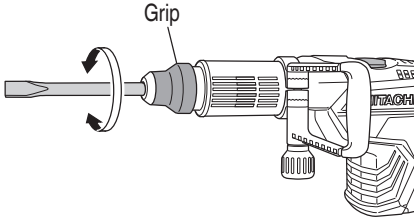

Fig. 4
- (2) Turn the grip or the tool as illustrated in Fig. 4 and fix the tool to the desired working direction.